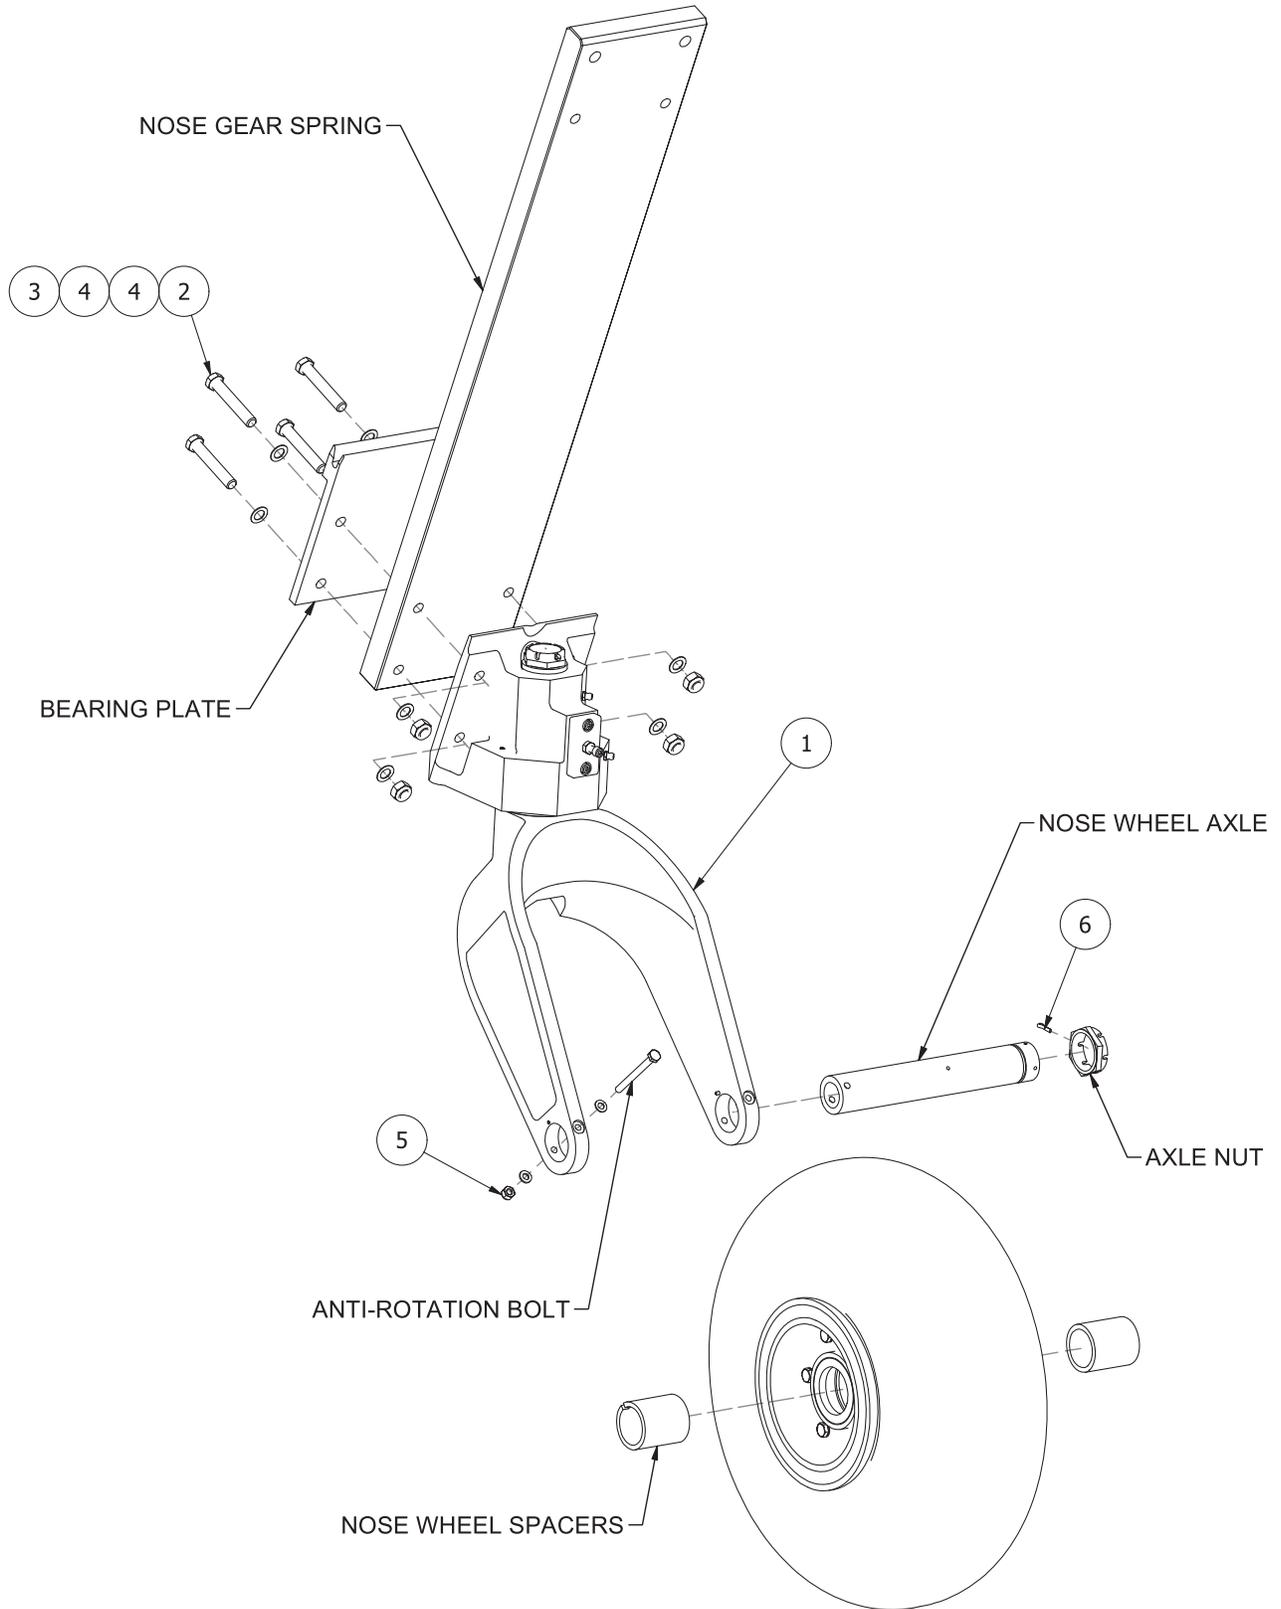

Figure 2 – Install Updated Pivot Block AND Single-Piece Nose Fork
- NOTE:** Refer to figure 2 throughout following steps. Ballooned items are included in kit.
- a. Remove nose wheel axle nut and anti-rotation bolt. Locknut and cotter pin replacements are included with kit (items 5 and 6).
4. Remove four bolts (items 2, 3, 4) to detach nose spring bearing plate and the combined pivot block/yoke/fork assembly from nose spring. The bearing plate may be reused. Replacement hardware provided in kit.
6. Attach nose spring bearing plate and updated gear pivot block and fork assembly (item 1) to nose spring using AN7 bolts, washers, and locknuts (items 2, 3, 4). Torque per Wipaire Service Manual 1002545 (AT-802A) or 1003546 (AT-802) section 16.4 – Float Hardware Recommended Retorque And Replacement Checklist.